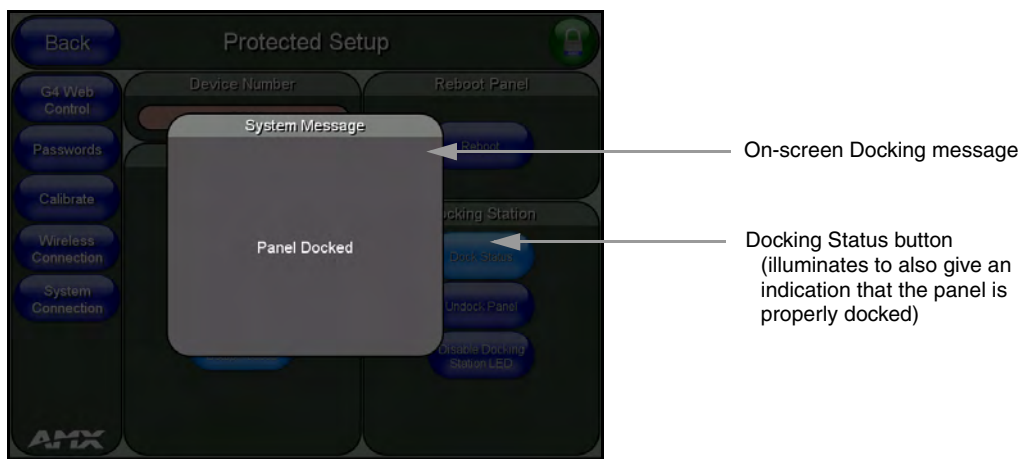

FIG. 17 System message - panel is properly docked
- When the MVP is properly docked, the following message is displayed on the panel (FIG. 17).